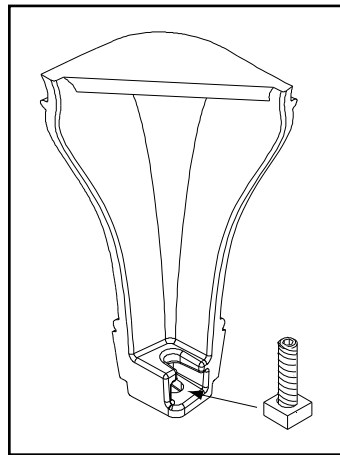

Figure 22.3
9. Slide Allen bolt/nut assemblies into slots of two of the legs with the nuts on the bottom (**Figure 22.3 and 22.4**).